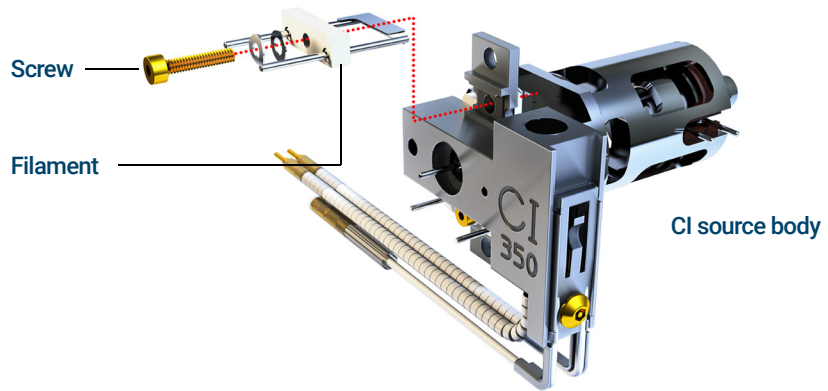

Figure 81. Changing the CI source filament
- 4 Remove the screw holding the filament to the CI source body. (See **Figure 81**.)
- 5 Slide the filament off the CI source assembly. (See **Figure 81**.)
- 2 Place the new filament into its position on the ion source body. (See **Figure 81** on page 248.)
- 3 Secure the filament to the ion source body with the screw. (See **Figure 81** on page 248.)